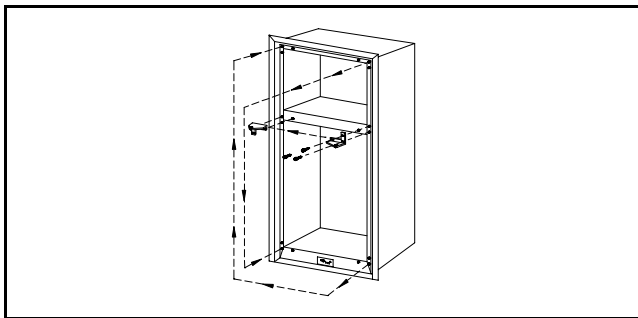

Figure 10
- Remove the middle hinge bracket by using the #2 phillips screwdriver and taking out the three screws holding it in place. Next, with fingernails, lift and remove the three hole plugs on the opposite side corresponding to the center hinge location. Relocate them in the holes just exposed by the removal of the hinge bracket. Using the same screws, attach the hinge bracket to the refrigerator where the hole plugs previously were. Do not tighten screws completely. (See Figure 10)